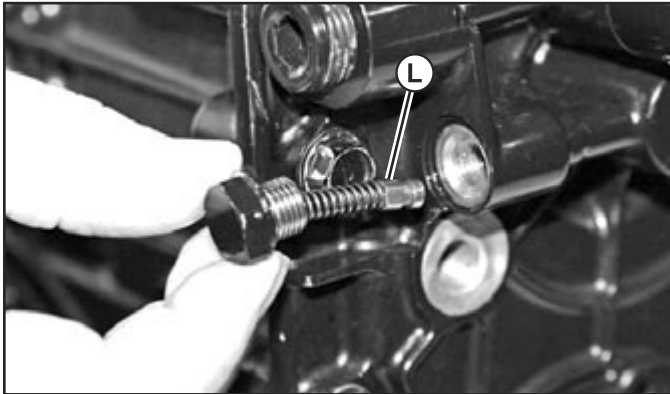

Fig. 28, Tow Relief Valve
4. Remove tow relief valve (L) if necessary. Remove and replace O-ring. (Fig. 28)